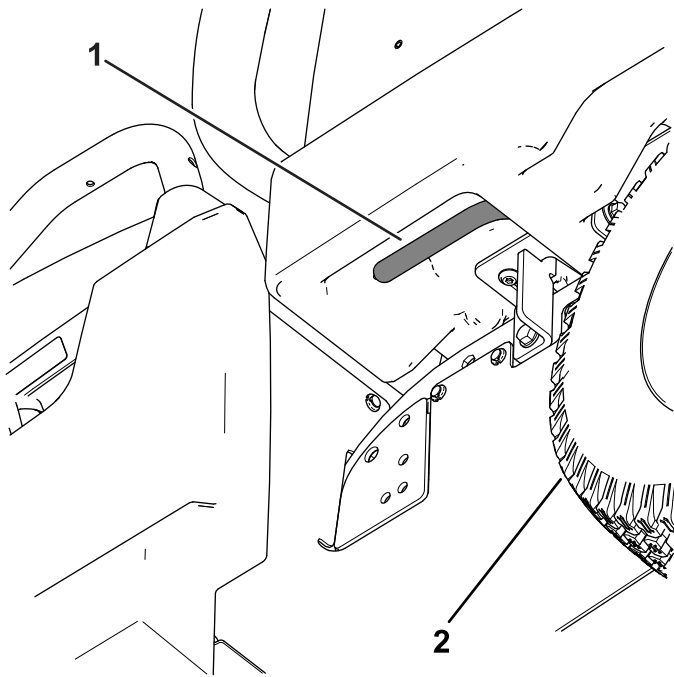

Figure 17
1. Pull the lever on left, inside of the cargo bed toward you and lift the cargo bed up (Figure 17).
1. Pull the lever on the left, inside of the cargo bed toward you and lift the cargo bed up (Figure 17).
1. Raise the cargo bed slightly by lifting up on the latch lever (Figure 17).